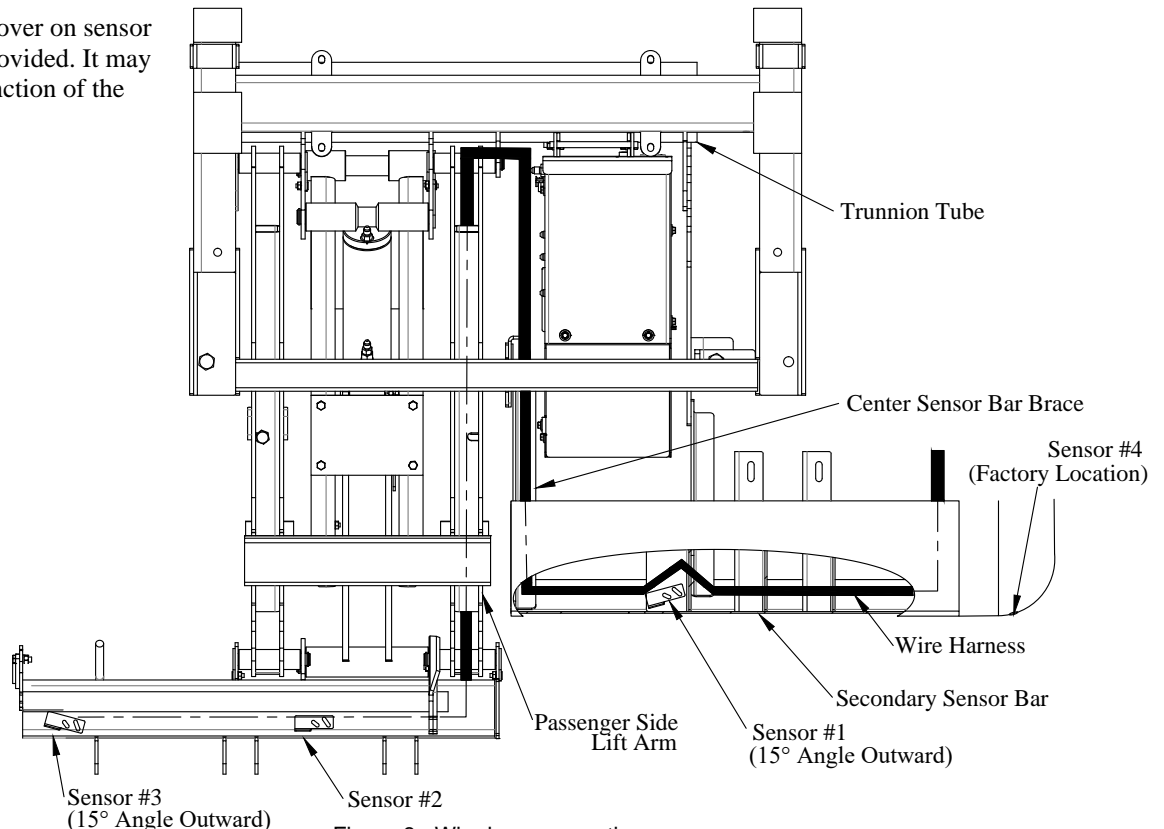

Figure 8: Wire harness routing.
- 3. Route** new sensor wire harness along the center sensor bar brace (Figure 8).
- 4. Route** new sensor wire harness over the top and down the inside of the passenger side lift arm, following limit switch wire harness (Figure 8).
- 5. Route** new sensor wire harness into the back of the sensor bar (Figure 8).
- 11. Adjust** sensor brackets so sensors are positioned as follows (Figure 8).